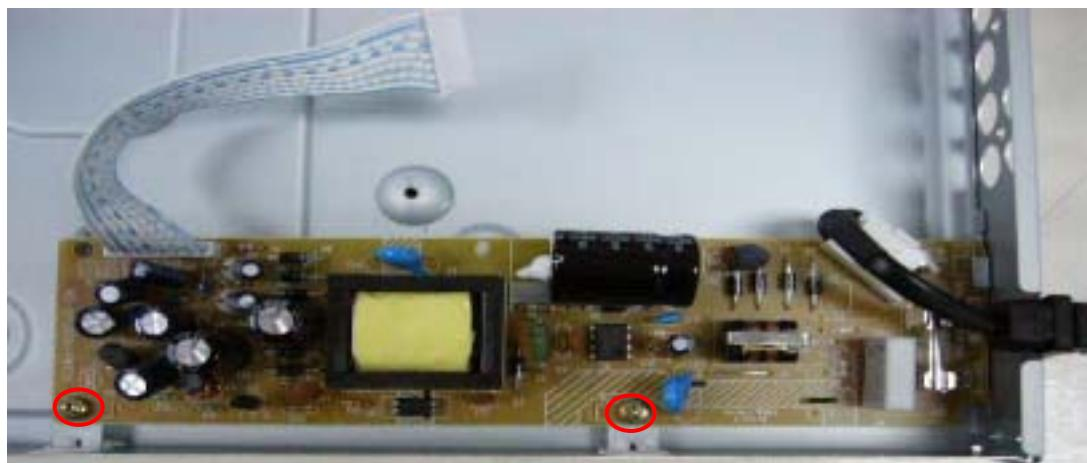

Figure 8
Step 7: Remove the 3 screws on powerboard to dismantle the powerboard. (Figure8)